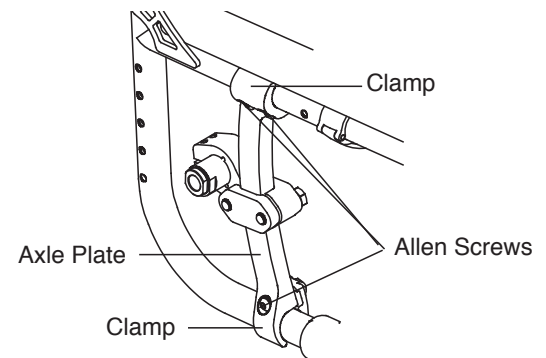

Figure 53
2. Loosen the six Allen Screws (three on each side of the chair) that secure the clamps at either end of the vertical axle plates to the frame. See Figure 53.